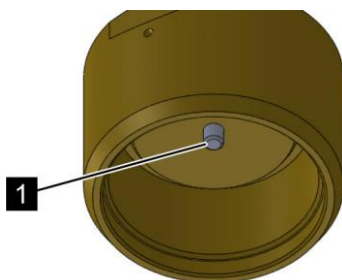

Fig. 156: Release pin
5. ➤ Check whether the release devices of the associated extinguishing agent container/s have been activated, i.e. whether the release pin (Fig. 156/1) protrudes 8.2 ± 0.5 mm (0.323 ± 0.02 inches).